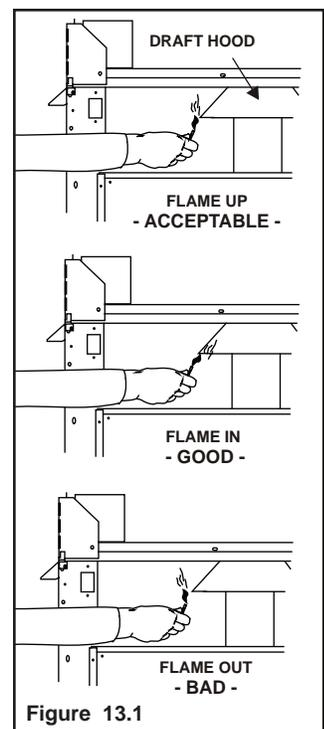

Figure 13.1
- Check draft as shown in Figure 13.1. This can be done using a smoke or flame producing match.